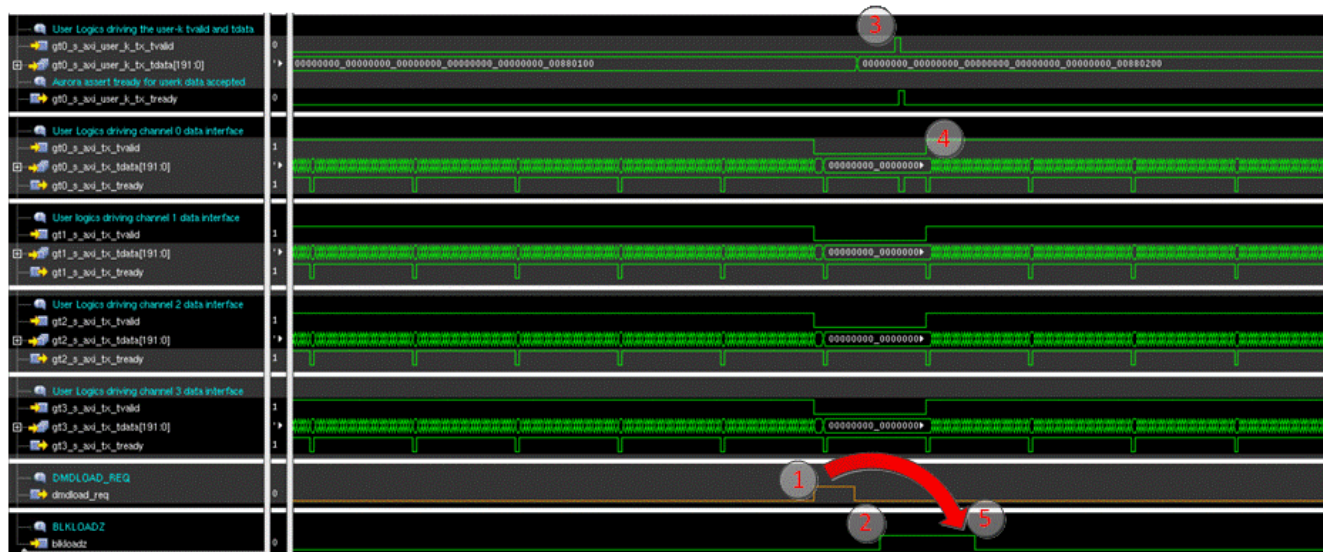

图 7-5. End of Block DMDLOAD_REQ Assertion Followed by New Block Control Word Waveform
- Refer to 图 7-5. In most cases, after the APPS FPGA user logic has completed the transfer of the current data block, it may find that the DLPC964 Controller is still loading the previous block to the DMD (i.e. `BLKLOADZ` is low). If this occurs, the APPS FPGA can still assert `DMDLOAD_REQ` while `BLKLOADZ` is low. The DLPC964 Controller will detect and store the `DMDLOAD_REQ` request and perform the data load as soon as the transfer of the previous data block is complete.
- The DLPC964 Controller has two data-block buffers - one for receiving the incoming Aurora data block from the APPS FPGA, and the other for holding the previous data block for streaming out to the DMD. Care must be taken by the APPS FPGA to avoid overrunning these two buffers. Refer to 图 7-5. After completing the current Aurora data transfer of block data and asserting the DMDLOAD_REQ signal, the APPS FPGA must wait for the de-assertion of BLKLOADZ by the DLPC964 Controller (i.e. BLKLOADZ transition from low to high) before starting the next block data transfer. De-assertion of BLKLOADZ indicates that the DLPC964 Controller has completed the DMD data loading operation for previous block, and a data buffer is freed up for accepting a new data block from the Aurora interface. The buffer will be overrun and data will be incorrectly loaded to the DMD if the APPS FPGA does not synchronize the Aurora block data transfer with BLKLOADZ signal de-assertion.